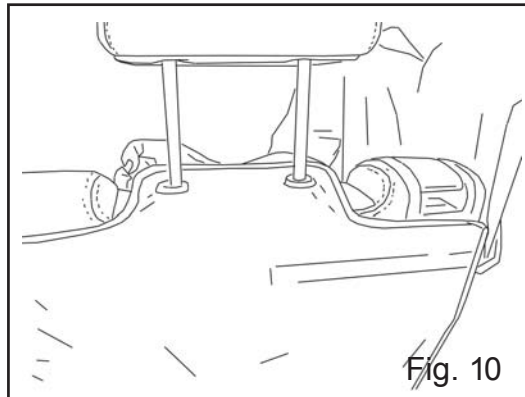

Fig. 10
- 8 Remove the 2nd row headrests. Re-install each headrest by inserting the rods through the corresponding grommets on the cover. (Fig. 10)